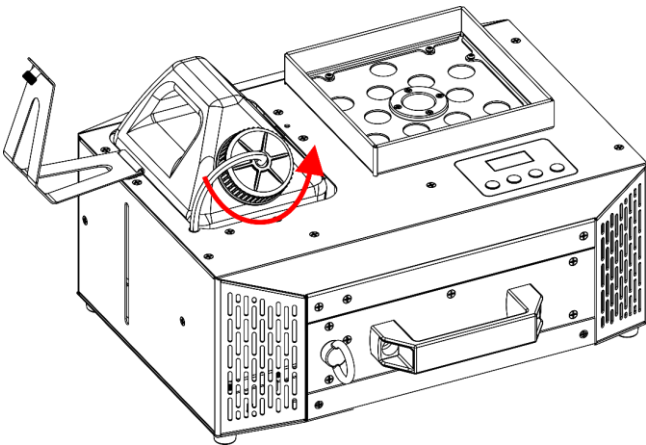

Fig. 40
- 04) Unscrew the lid on the fluid tank, as shown in Fig. 40.